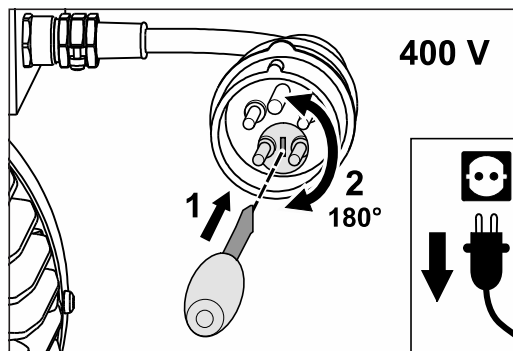

Fig. 23 Change the rotation direction of the motor by turning the phase changing switch at 180°.
- Put a screwdriver in the slit of the phase changing switch in the plug of the motor cable (fig. 23, 1).
- To unlock the phase changing switch press the screwdriver in the slit and at the same time turn the screwdriver 180° (fig. 23, 2).
- To unlock the phase changing switch turn the screwdriver 180° against a small resistance (fig. 23, 2).